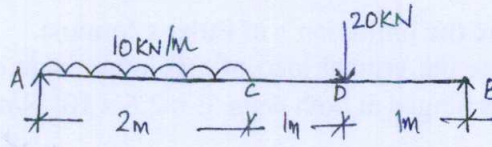

Fig. Q2(b)
- b. Determine the support reaction of the beam shown in Fig. Q2(b). (10 Marks)